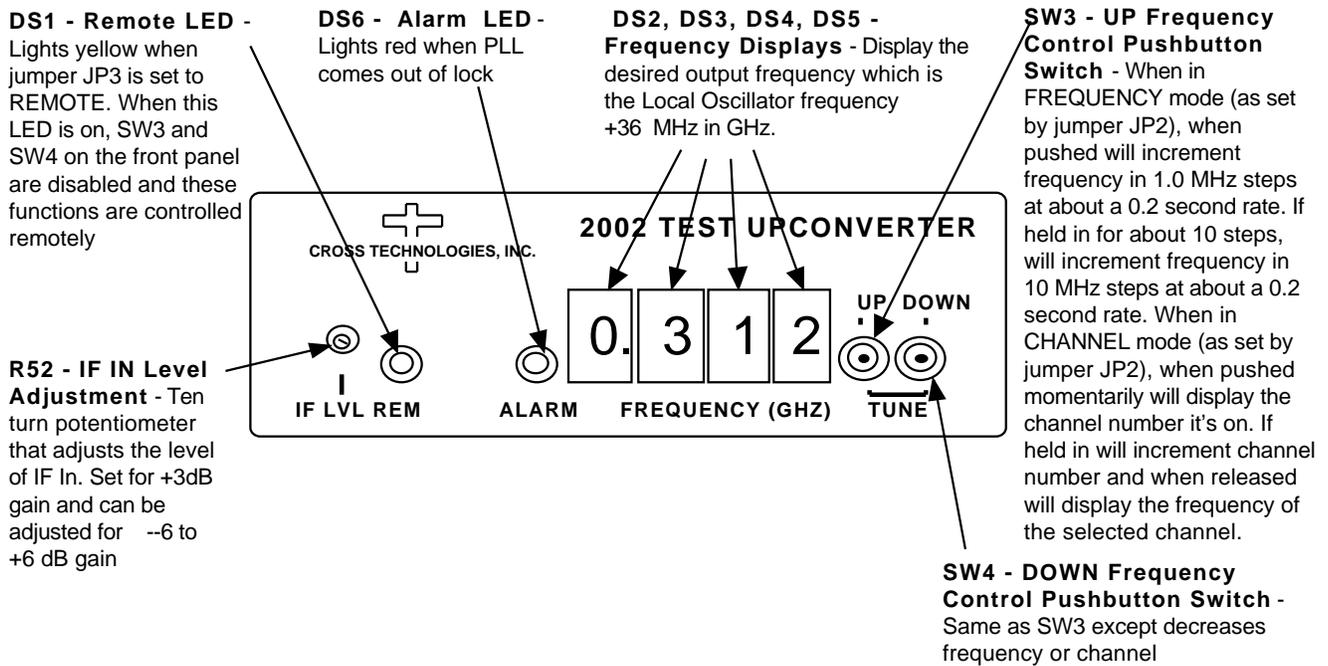
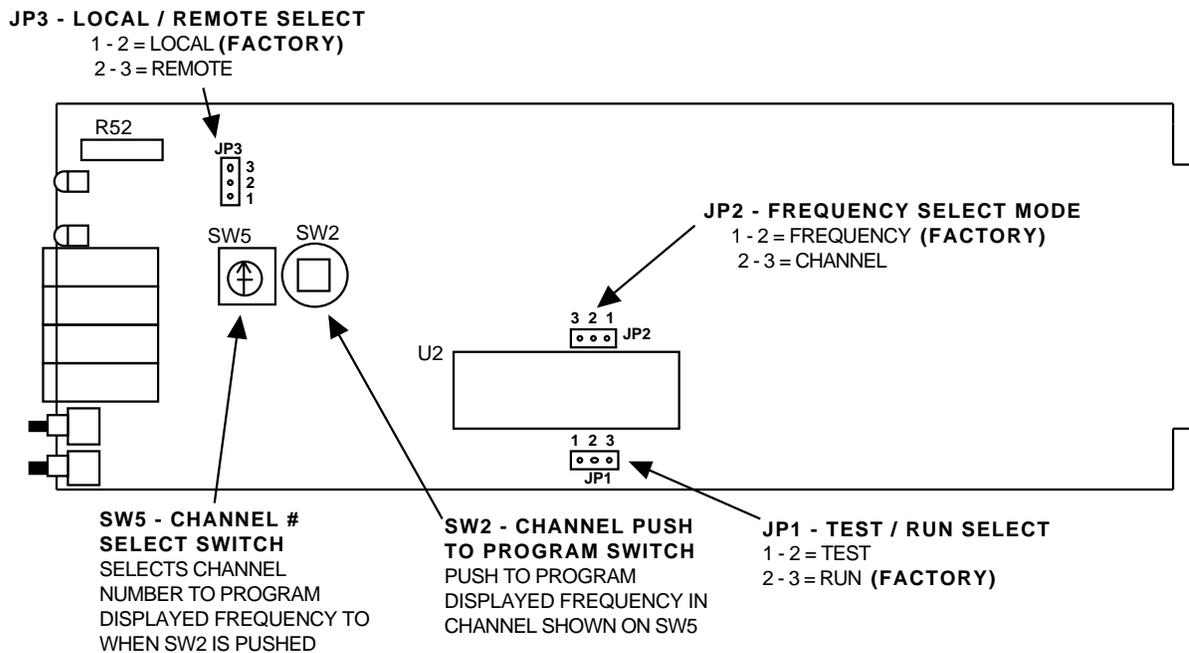

FIGURE 2.2 2002-33 Front Panel Controls and Indicators
FIGURE 2.4 2002-32, -33 On-Card Jumpers and Controls (See Section 2.4 for instructions on removing the PCB from the extrusion)
2.2 Controls and Indicators - Figure 2.2 shows front panel controls and indicators.
2.4 Accessing and Changing On-Card Jumpers and Controls - Figure 2.4 shows jumpers (with factory settings) and other on-card controls. To remove the printed circuit board (PCB) from the extrusion for access to the jumpers and controls:
- 3.) With the **power supply disconnected**, move jumpers to the desired positions (Figure 2.4).
- 7.) Install four (4) **rear panel screws**.
- 1.) If required, check that on-card jumpers are set to the desired positions (Figure 2.4)
- 4.) Set the desired frequency by pushing SW3 or SW4. If numbers 0 to 9 appear when pushing SW3 or SW4, the 2002-32,-33 is set for the channel mode (with on-card jumper JP4, Figure 2.4). See section 2.5.2 for frequency setting information.
- 5.) Be sure DS1 and DS6 are off (Figure 2.2).
- 6.) If needed, R52 can be adjusted (Figure 2.2) for input signals that are different than -15 dBm (-10 to -20 dBm). Note that this adjusts the level of IF In and uncalibrates the 2002-32,-33 from its -15 dBm input setting
2.5.4 Frequency Setting, Channel Mode - A second tuning mechanism is channel selection. This is accomplished when the on board three-pin jumper (JP2) (Figure 2.4) is set to the “channel” position. Ten preset channels (0-9) can be selected as follows:
1. The 2002-32,-33 PCB is removed from the extrusion (see section 2.4 for instructions) to access the channel selecting decimal switch (SW5) and the push to program switch (SW2) (Figure 2.4). With the display mode jumper (JP2) set in the frequency mode, the frequency set switches (SW3,SW4) are pushed to the frequency desired (Figure 2.2).
2. The decimal switch (SW5) is set to the channel number desired to be programmed (Figure 2.4).
3. Push programming button (SW2) to program the displayed frequency into that channel number (Figure 2.4).
5. When finished, set JP2 (Figure 2.4) in the “Channel” position if this tuning mechanism is desired.
2.5.5 Remote Operation - Frequency control can be remotely commanded from an external (not supplied) PC using a simple DOS program. To place the 2002-32,-33 in the Remote mode, place on-card jumper JP3 in the REMOTE (pins 2-3) position (Figure 2.4) and observe yellow LED DS1 (Figure 2.2) is on. Serial ASYNC (8N1) data is received via RS232C receiver U4 and sent via RS232C transmitter U13 at a 9.6kB/s data rate. When in the remote mode, either frequencies or channel numbers can be provided, but programming the frequencies of the channels can only be done locally.
3.2.3 Frequency Setting, Channel Mode - A second tuning mechanism is channel selection. This is accomplished when the on board, but not front panel accessible, three-pin jumper (JP2) (Figure 2.4) is set to the “channel” position. Ten preset channels (0-9) can be selected as follows: